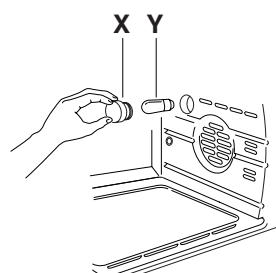

fig. 12
- unscrew the protective glass cover (X), by turning it anti-clockwise, and replace the bulb (Y) with a new one of the same type (see Fig. 12). Replace the protective glass cover (X).